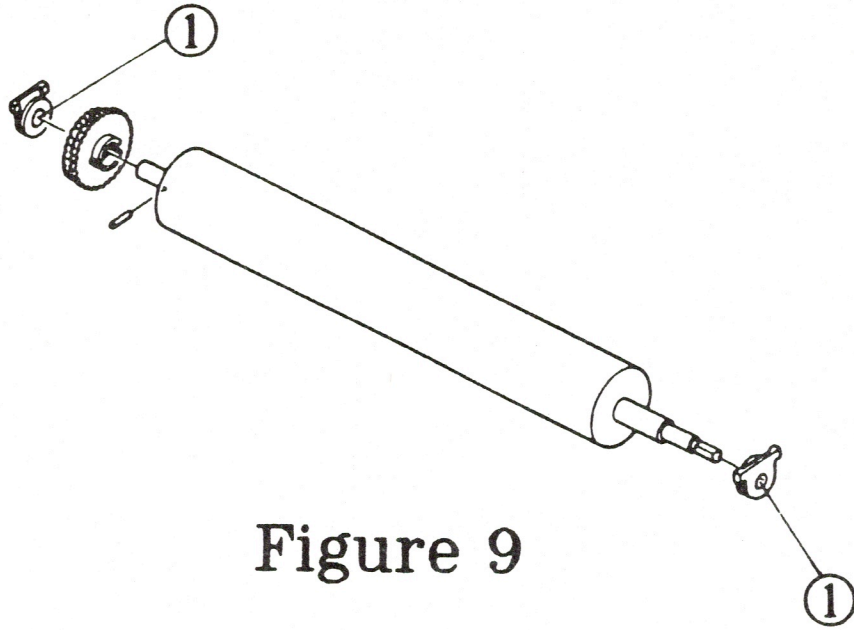

Figure 9
- a) Remove the bearings from the platen assembly (see Figure 9, #1).